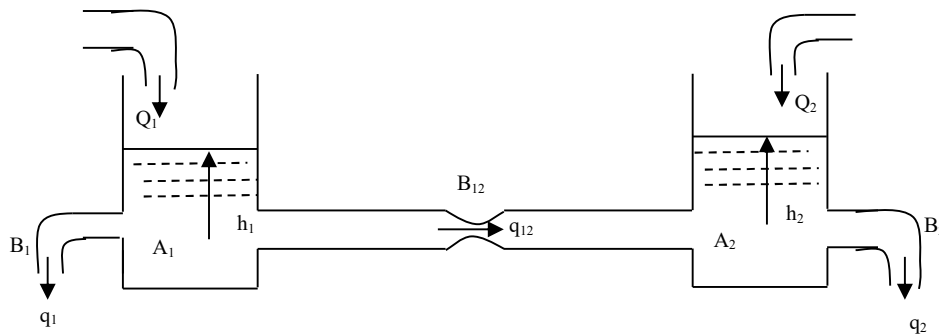

fig.1
1. Consider the hydraulic system shown in fig.1. Derive state space equations for the system with water levels h_1 and h_2 in the two tanks as the state variables x_1 and x_2 respectively and discharges q_1 , q_{12} and q_2 as the outputs y_1, y_2 and y_3 respectively.